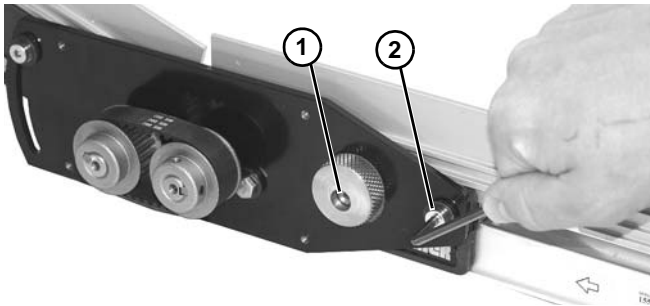

Figure 23
13. Tighten screw (Figure 23, item 1) in cam to lock belt tension.
14. Tighten screw (Figure 23, item 2) to 7 Nm to secure position.